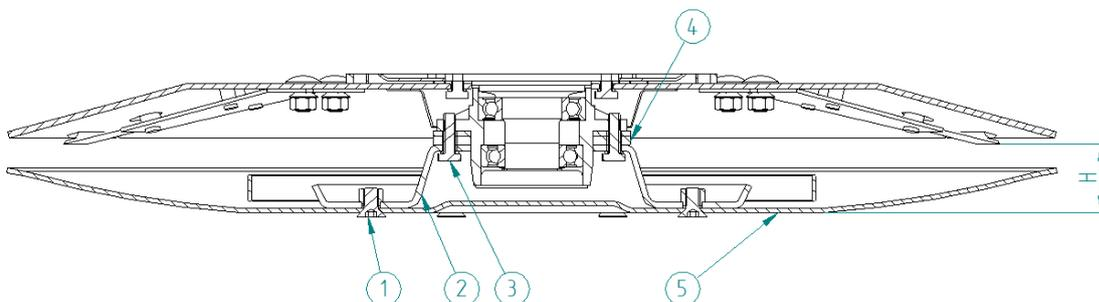

Figure 19 Cutting height adjustment: H) cutting height
- 3) Unscrew the bolts (Fig. 19, item 1) and remove the sliding disc (Fig. 19, item 5)
- 4) Unscrew the bolts (Fig. 19, item 3) fixing the resistance disc (Fig. 19, item 2) and remove the disc.
- 5) Adjust the cutting height (Fig. 19, item 4 - spacer rings),